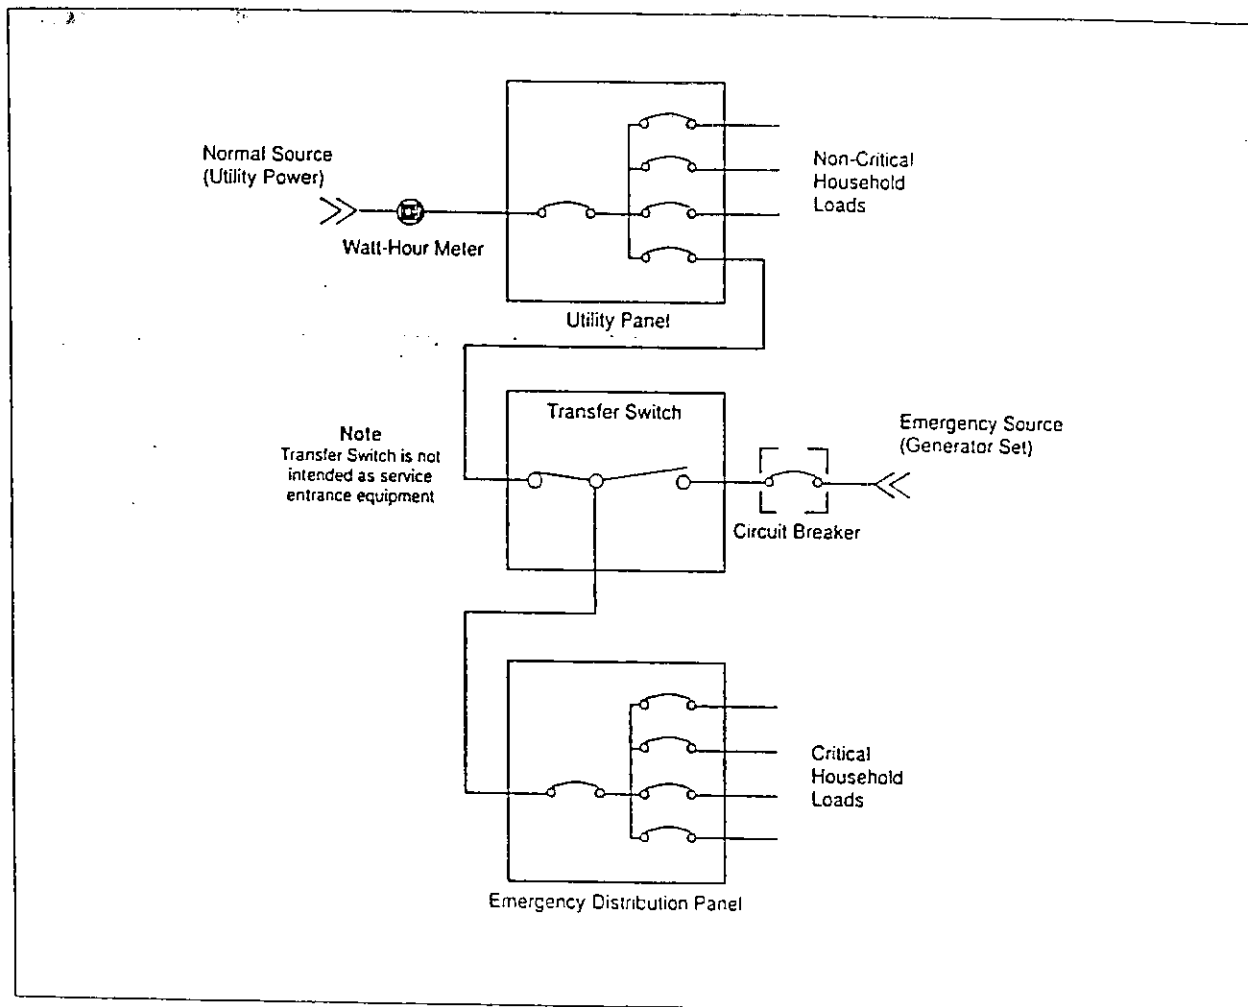

Figure 4-4 Diagram of Typical Installation
In a typical installation (Figure 4-3), the automatic transfer switch (ATS) for optional systems (1) and the generator (2) are connected to the residential power supply. The ATS for optional systems (1) and emergency distribution panel (3) receive normal power from a dedicated breaker in the utility service panel (4). The ATS for optional systems and emergency panel receive emergency power from the generator (2). Power from the utility feeds the utility panel. A line breaker is required between the emergency source (generator) and the transfer switch (Figure 4-4)